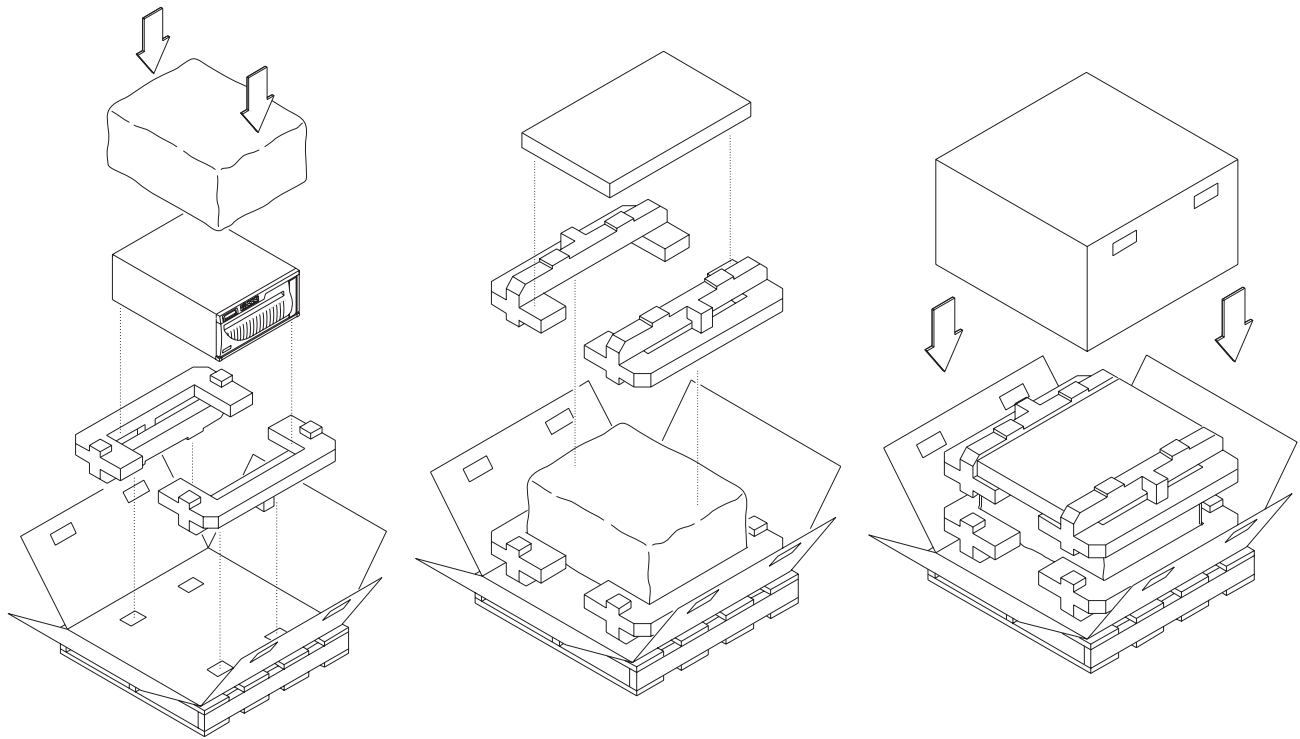

Figure 9-4 Packing the library for shipment
- 2. Place the box and two bottom cushions on the pallet, as shown in Figure 9-4.
- 3. Place the library on top of the bottom cushions, then place the antistatic bag over the library, as shown in Figure 9-4.
- 4. Place the two top cushions on the library, as shown in Figure 9-4. (Use the alignment holes in the packing pieces as a guide.)
- 5. If you are shipping accessories with the library, place the accessory box on top of the cushions, as shown in Figure 9-4.
7. Fold the side flaps up and place the carton over the library, as shown in Figure 9-4.